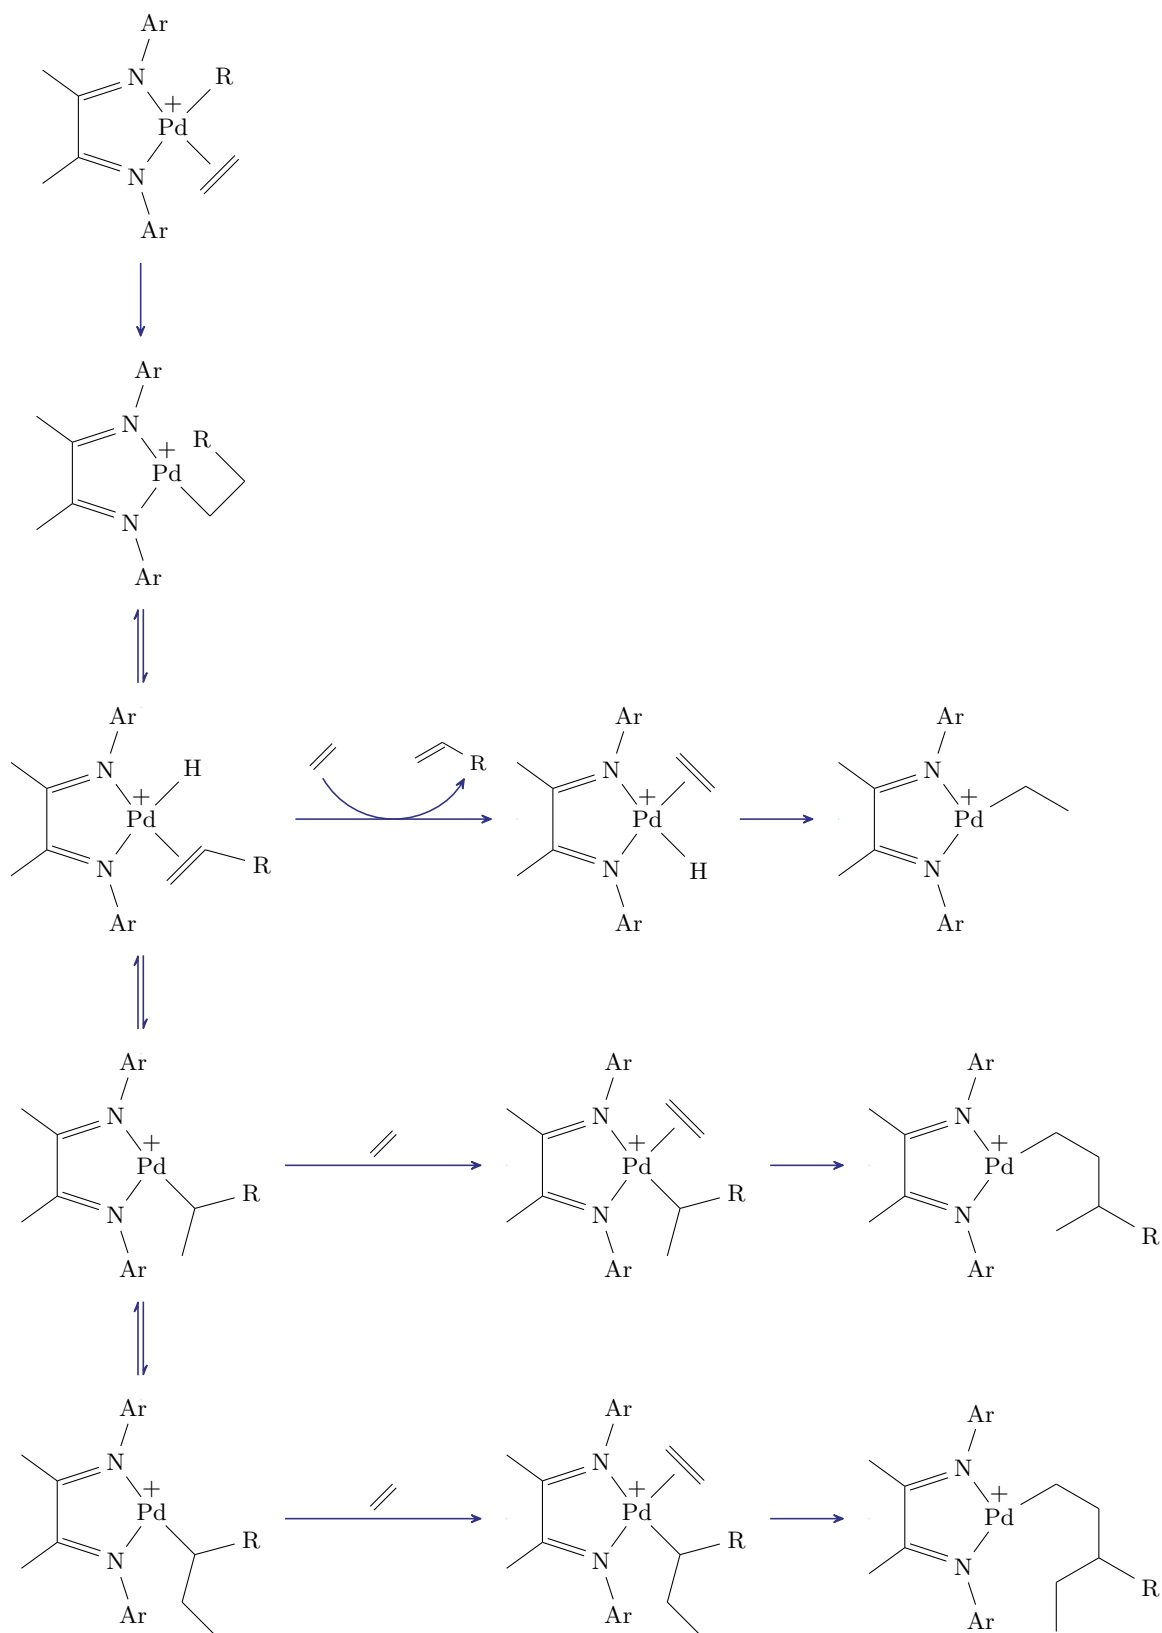

Figure 5.7: Polymerization with Brookhart catalysts.
- Brookehart type nickel- and palladium-based polymerization catalysts are introduced in Section 11.3.3 of the text. These catalysts differ from metallocene catalysts in that (1) the resting state is the (diimine)MR(ethylene)+ adduct 1, (2) chain walking is much faster than chain growth, (3) ethylene insertion into secondary alkyl metal species is fast, and (4) a hyper branched polyethylene is produced (ca. 100 branches at 1000 °C).
- A mechanism for polymerization showing how branches are formed (see Figure 5.7).
- It's Zr(IV) as a cation.
- Palladium(II) is  $d^8$  and soft, while zirconium(IV) is  $d^0$  and hard. While both are poor backbonders, the soft character of the former leads to stronger metal olefin coordination. This enables  $\beta$ -H elimination of (diimine)PdCH2CH2R+ to form (diimine)PdHCH=CHR+ to compete with trapping by ethylene to form the resting state, and thus enables chain walking to compete with growth.